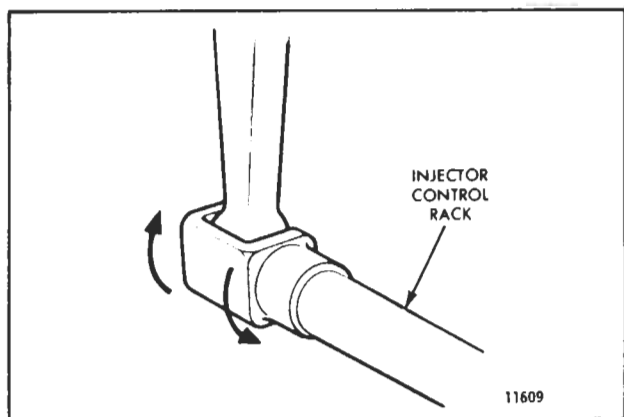
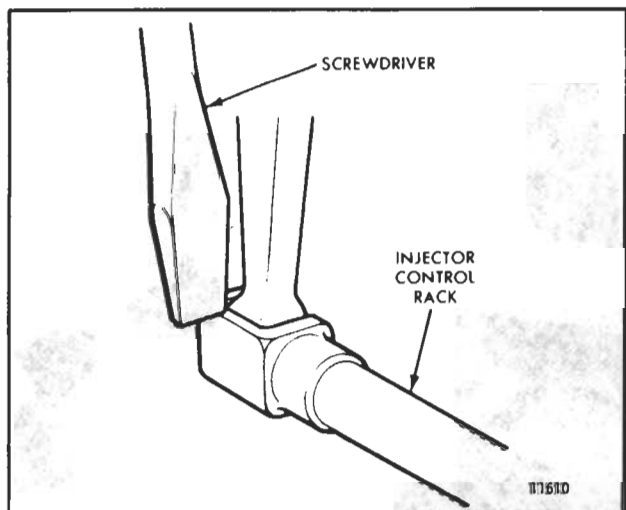

Fig. 5 - Checking Rotating Movement of Injector Control Rack
Fig. 6 - Checking Injector Control Rack "Spring"
8. To be sure of the proper rack adjustment, hold the speed control lever in the maximum speed position and press down on the injector rack with a screw driver or finger tip and note the "rotating" movement of the injector control rack (Fig. 5). Hold the speed control lever in the maximum speed position and, using a screw driver, press downward on the injector control rack. The rack should tilt downward (Fig. 6) and, when the pressure of the screw driver is released, the control rack should "spring" back upward.